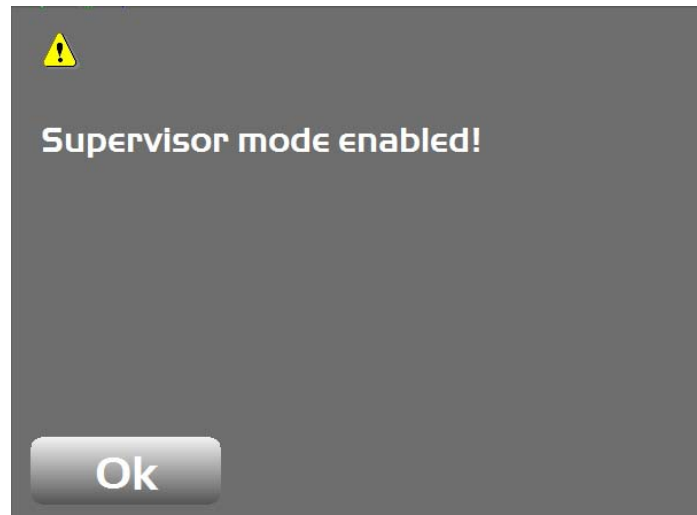

Figure 94: Supervisor Mode Enabled
3. Tap **OK** at the prompt to enable supervisor mode (Figure 94). The main screen appears.